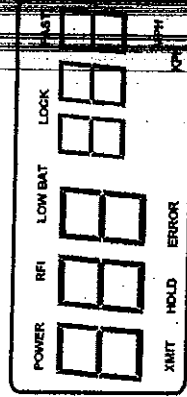

Figure 2.3.2
The three large digits (888) on the left display the vehicle speed. The three small digits on the right display either the locked speed or Faster Target speeds. (Figure 2.3.2).